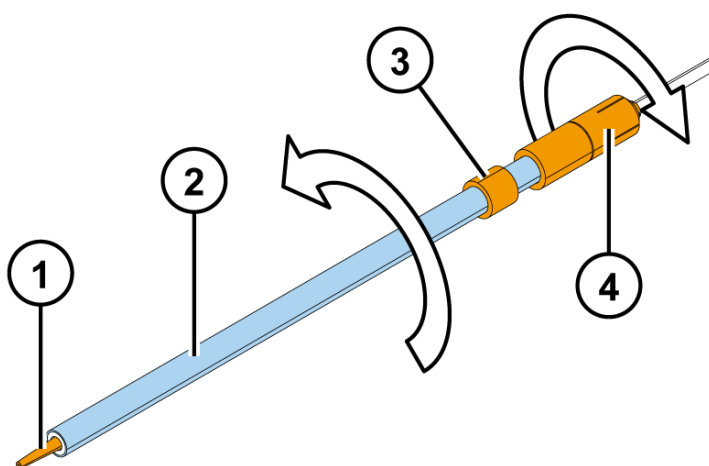

Figure 5–51 Replacing the dispensing tip (A)
To replace a dispensing tip (Figure 5–51):
1. Remove the dispensing head tube (Figure 5–51) from the brass tube holder (Figure 5–51) by turning the dispensing head tube counterclockwise and the brass part closest to it clockwise.